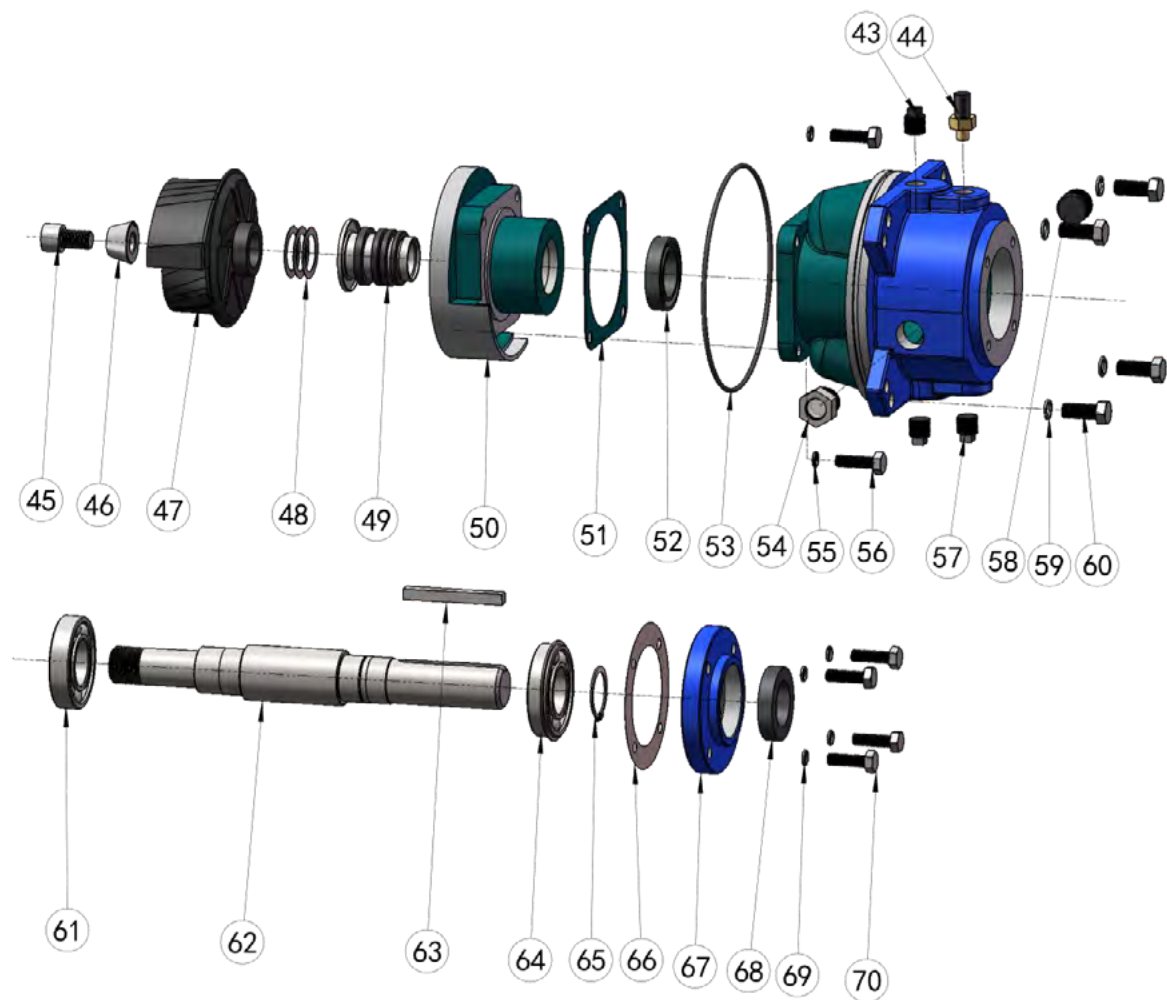

Figure E-2 Rotating Assemblies
Rotating Assembly Removal (Figure E-2)
Impeller Removal (Figure E-2)
Shaft and Bearing Removal and Disassembly (Figure E-2)
Shaft and Bearing Reassembly and Installation (Figures E-2)
Press the outboard oil seal (68) into the bearing cap (67) with the lip positioned as shown in Figure E-2. Replace the bearing cap gasket (66) and secure the bearing cap with the hardware (69 and 70). Be careful not to damage the oil seal lip on the shaft keyway.